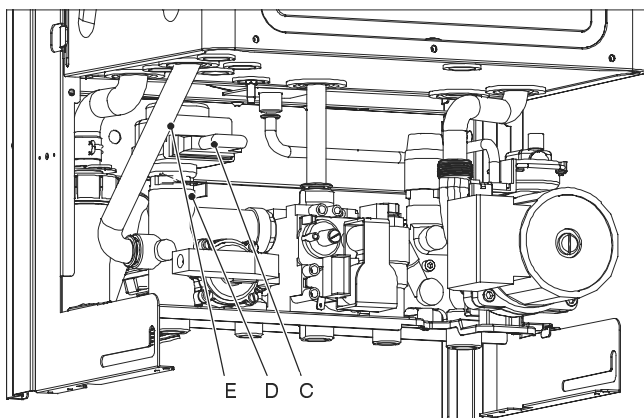

Fig. 8.4
- 2 Disconnect the connectors C (Fig. 8.4).